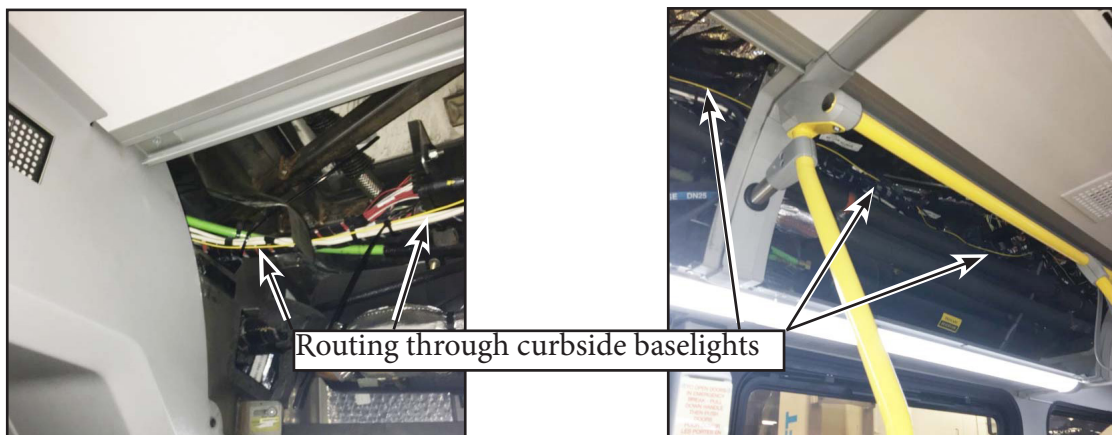

Figure 26 - Front to Back Cable Routing in the Rear Curbside Baselights
- 2.13. Continue routing and tie wrapping the front to back cable through the rear bulkhead and through the curbside baselights towards the rear of the bus (see Figure 26).